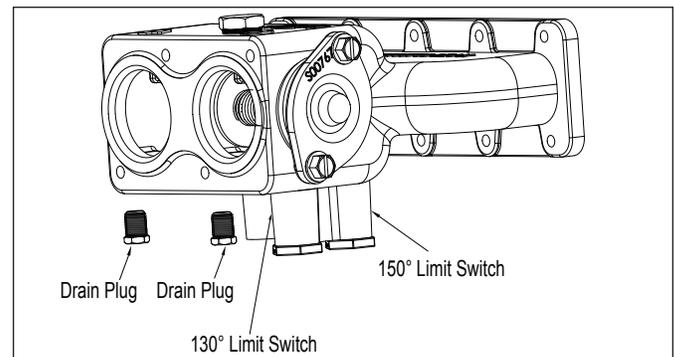

Figure 5. High Limit Switches
19. Remove the high limit switches from the header. To remove the switches, you must first remove the two (2) plugs and gaskets holding them in place. Move the switches out of the way. See Figure 5.
20. Remove the eight (8) hex head screws holding the inlet/outlet header side cover plates located on the inlet/outlet header side. Set the plates aside.
21. Remove the upper right side panel support by removing the two (2) hex screws holding it in place. Set it aside.
22. Remove the upper left side panel support by removing the two (2) hex screws holding it in place. Set it aside.
23. Remove the flat return header side cover plate to expose the return header by removing the six (6) hex head screws, one in each corner.
24. Remove two (2) hex head screws from the right and left side burner panels. Remove two (2) hex head screws from the combustion chamber right and left sides. Remove hex head screws (five (5) for the 400 model and two (2) for the 250 and 300 models) from the back support bracket and back combustion chamber.
2. Route the wires that attach to the high limit switches along the back to the right side of the heater. Reinstall the high limit switches. Be sure to install the 130°F switch into the front port on the return outlet port. The 150°F switch (with red marking on the face) is installed in the rear port of the outlet port. Install the retaining clips, sensor and hand-tighten the plugs. See Figure 5.